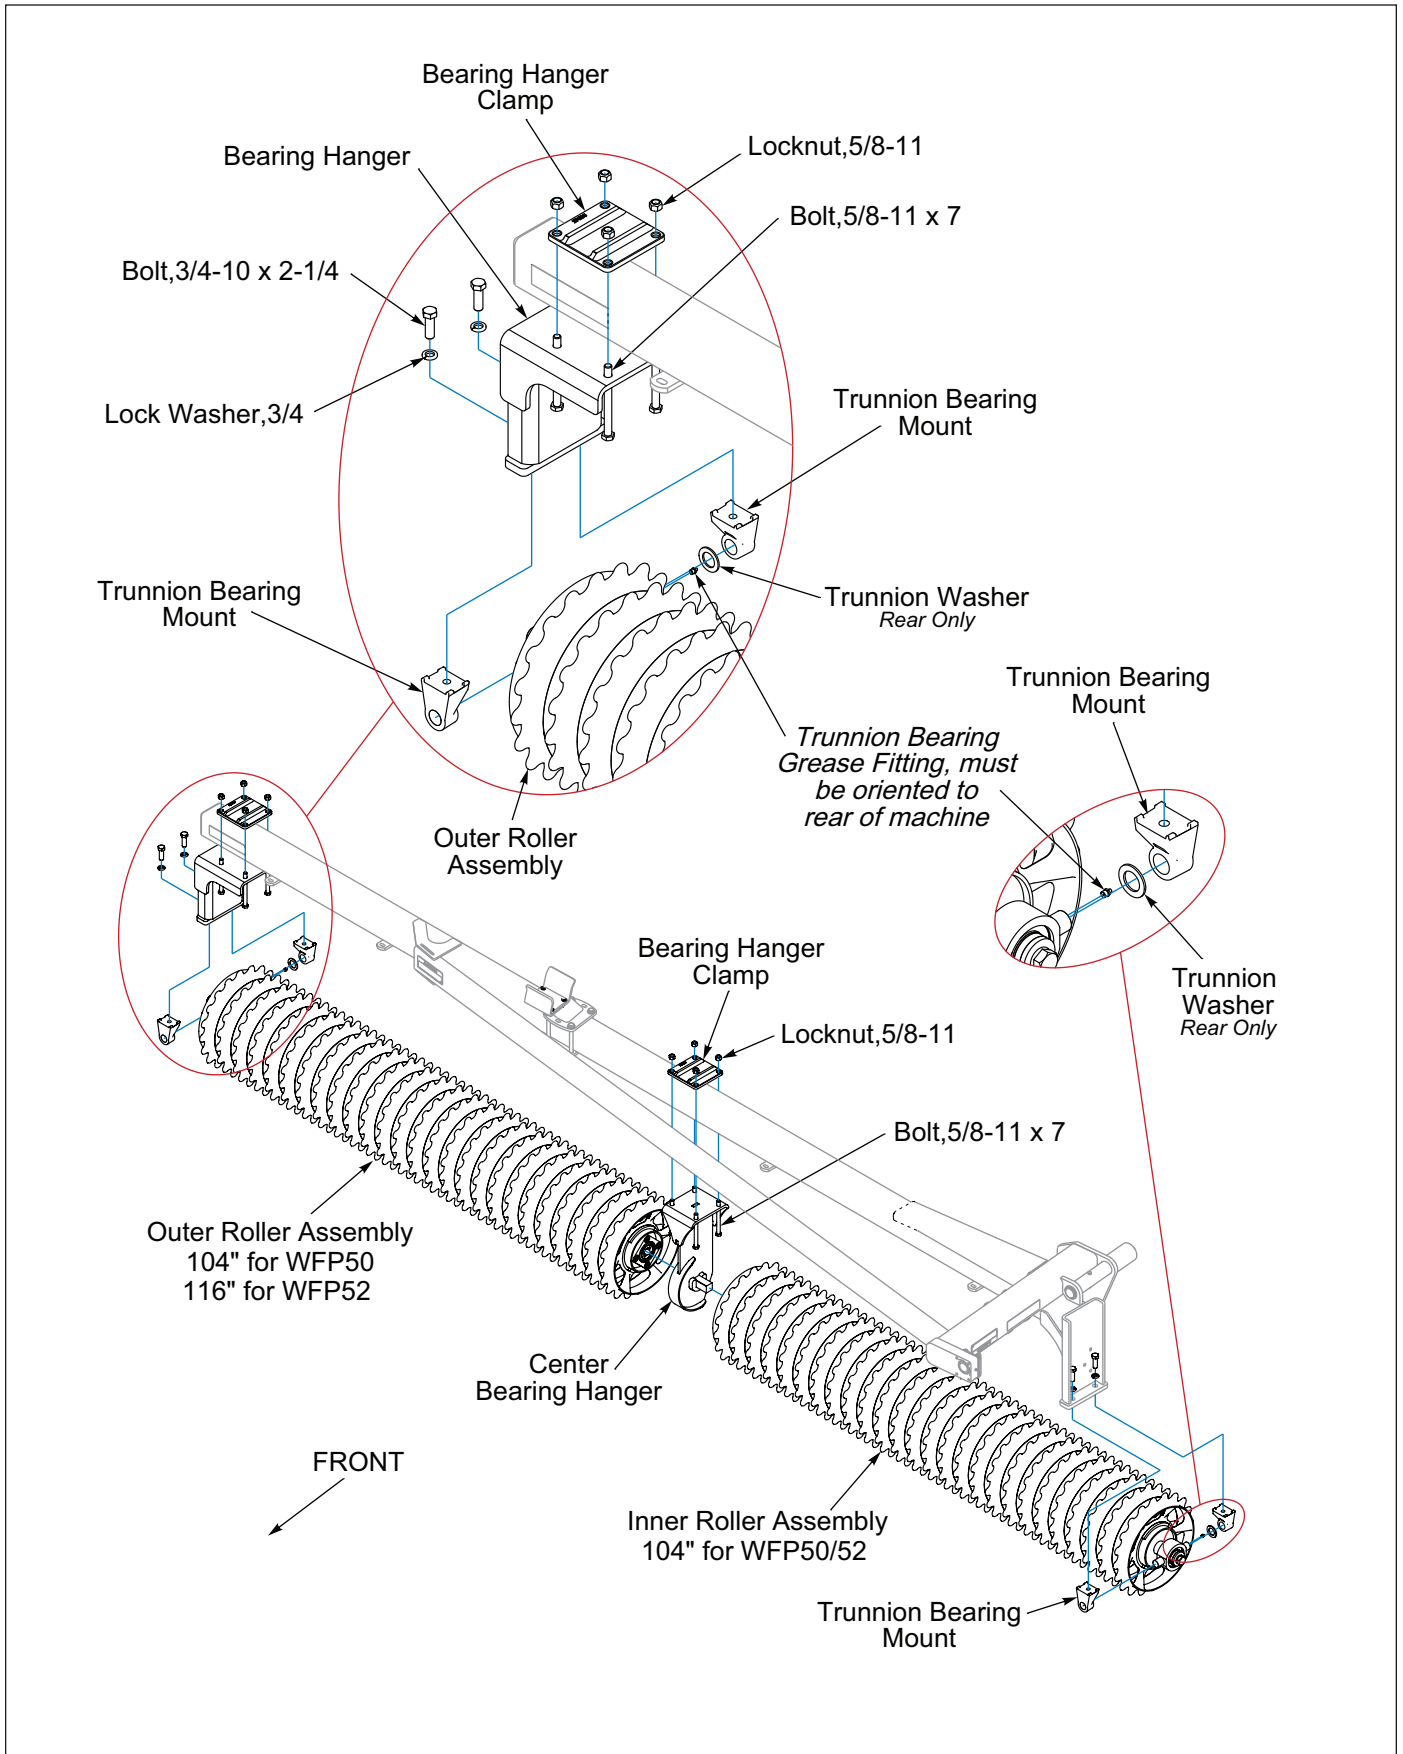

Figure 2-21: Wing Frame Roller Installation, WFP50-52
**WFP50-52 Machine Models:** Install Center Bearing Hanger to the bottom of the Wing Frame Tube with Bearing Hanger Clamp, 5/8-11 x 7 Bolts and Locknuts. See Figure 2-21.